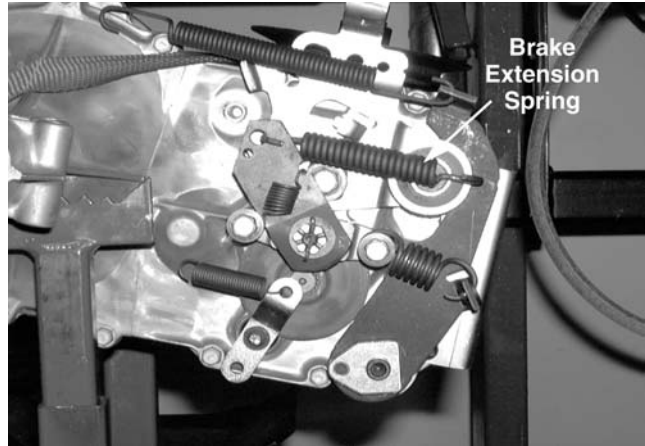

Figure 9-58
19. Remove the brake extension spring from the brake rod using a pair of vice grips. See Figure 9-58.